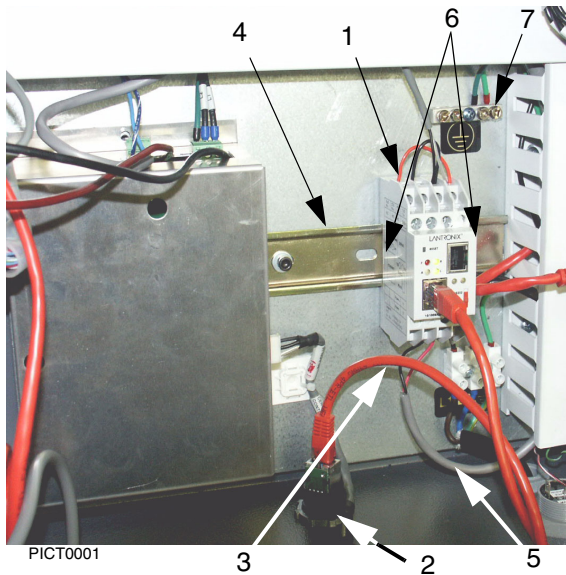

FIG. 11 Cable Connections
4. Install bulkhead ethernet connector (2) in bottom of enclosure. See FIG. 11.
5. Install DIN rail (4) using 2 screws (7).
6. Install DIN rail end blocks (6) to prevent power supply from moving.
7. Install the Modbus/TCP converter (1).
1. Remove the power cable from J5 (display) to J4 (power supply). See FIG. 11 and "EasyKey Modbus / TCP Wiring Diagram" on page 19.
(FIG. 11 shows a completed Modbus/TCP Kit Installation).
2. Connect the 24-volt power supply with wire modbus/TCP harness (5). Harness replaces existing power wiring to display board. Connect the other end to the converter. See "EasyKey Modbus / TCP Wiring Diagram" on page 19.
4. Connect green ground wire from the converter to the ground bus bar (7).
5. Install cable modular RJ45 cable (3) between converter and bulkhead. **Be sure to plug cable into correct plug on converter module. See location in Fig. 11.**